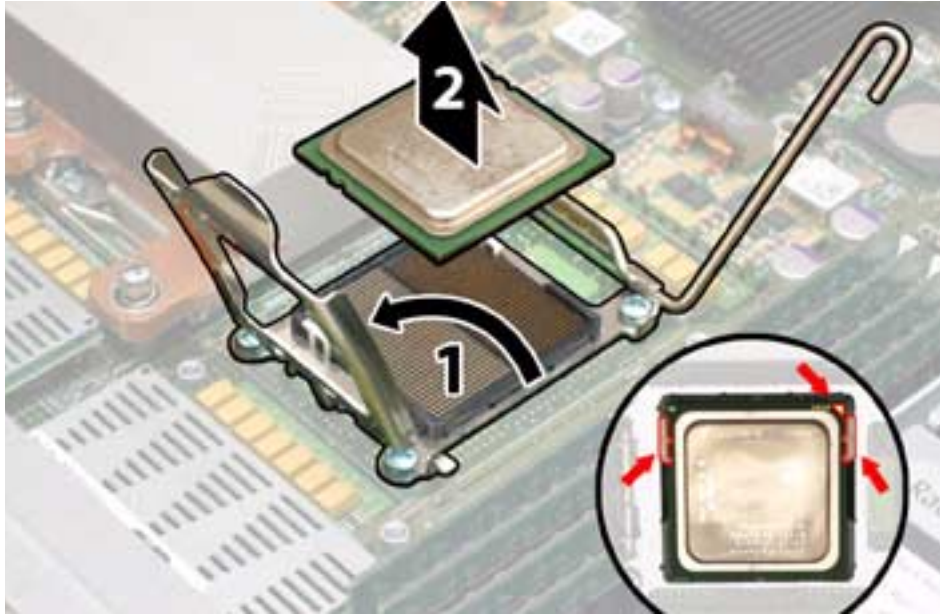

FIGURE 3-57 Removing the CPU From the Socket
- e. Open the hinged plate that covers the CPU until it is in the fully open position and lift the CPU out of the socket, leaving the lever in the vertical, open position. See FIGURE 3-57.
- c. Align the CPU in the socket as shown in FIGURE 3-57.
Note – Use the alignment keys in the CPU socket to match the alignment notches on the sides of the CPU. See inset of FIGURE 3-57.